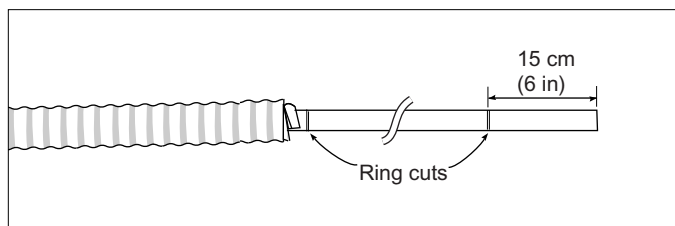

Figure 9 — Ring cutting the inner jacket
Step 10: Ring cut the inner jacket at the end of the exposed armor and 15 cm (6 in.) from the end of the cable (Figure 9). Use care to avoid damaging the aramid yarn strength elements under the jacket.